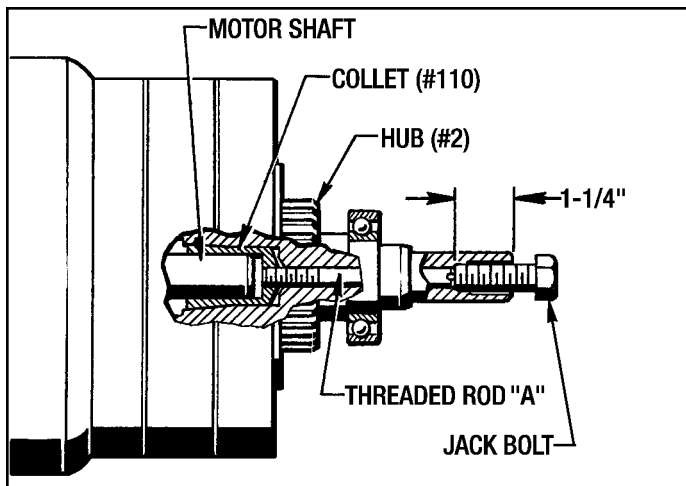

Figure 7.5 - Loosening Collet (#110) from Hub (#2)
2. Insert the **Threaded Rod "A"** into the end of the Hub (#2) and thread it into the Collet (#110) with a flat head screw driver. Leave about 1-1/4" from the end of the Hub (#2) as shown in *Figure 7.5*.